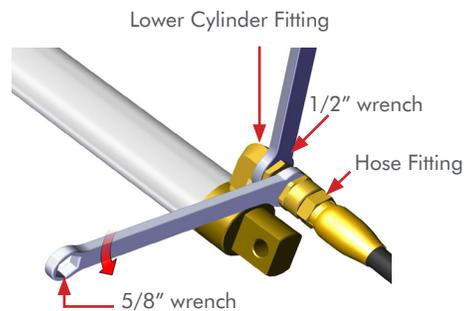

Figure 3
STEP 3 Loosen the **DOWN Hose** from the **Upper Cylinder Fitting** by holding the fitting base with a **1/2" Wrench** and loosening the hose fitting with a **5/8" Wrench**. **FIG 3**